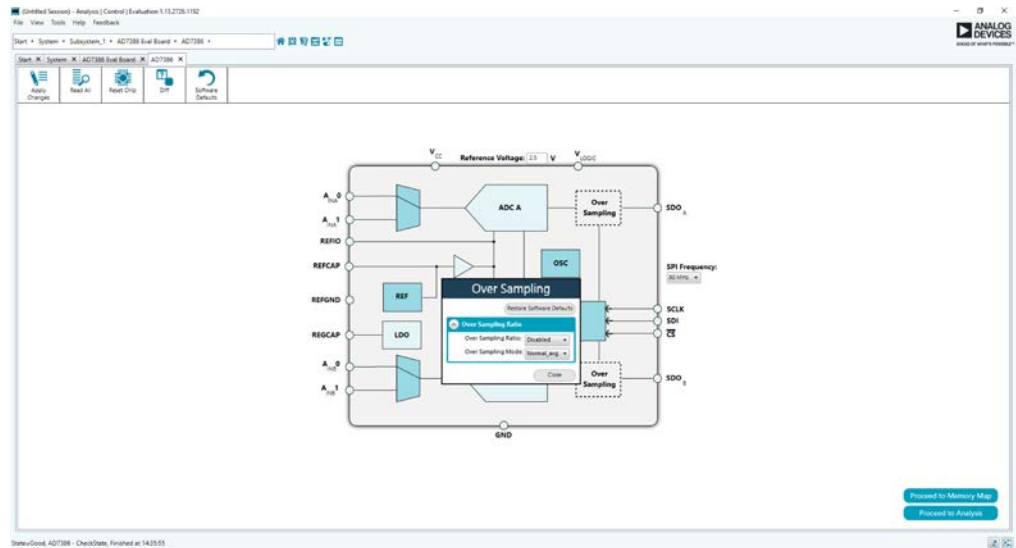

Figure 16. Over Sampling Pop-Up Configurable Window
1. Block icons that are dark blue are programmable blocks. Click a dark blue block icon to open a configurable pop-up window that allows customization for data capture, as shown in the **Over Sampling** block in Figure 16.